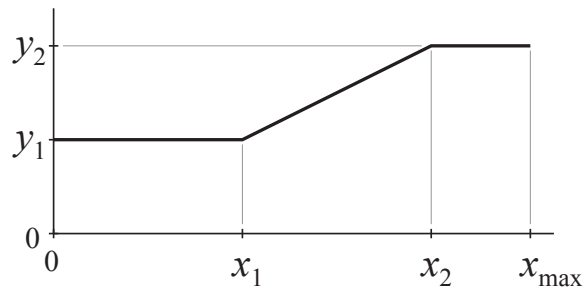

Figure 1. Step-ramp analog scaling function.
Write an Arduino sketch that converts an analog reading according to the function depicted in Figure 1 on the next page. The x -axis represents the input, i.e. a value returned by the `analogRead` function ($0 \leq x \leq 1023$). The y -axis represents an imaginary physical quantity that is measured by the sensor attached to the analog input pin. In other words, Figure 1 represents a calibration function (calibration curve) for the imaginary sensor. The point of this problem is to write the code that
- b. Write an Arduino sketch that reads the potentiometer input and produces an output in the Serial Monitor that corresponds to Figure 1. For this specific exercise, use $y_1 = 10$, $y_2 = 20$, $x_1 = 400$, $x_2 = 800$ and $x_{\max} = 1023$ (of course). The shell of a sketch `stepRampAnalogScaling.ino` in Listing 1 may be helpful as a starting point. The reading returned from `analogRead` is the x value in Figure 1.
- When the analog reading is any value between 400 and 800, your code should print the reading a value that falls on the sloping line in Figure 1.